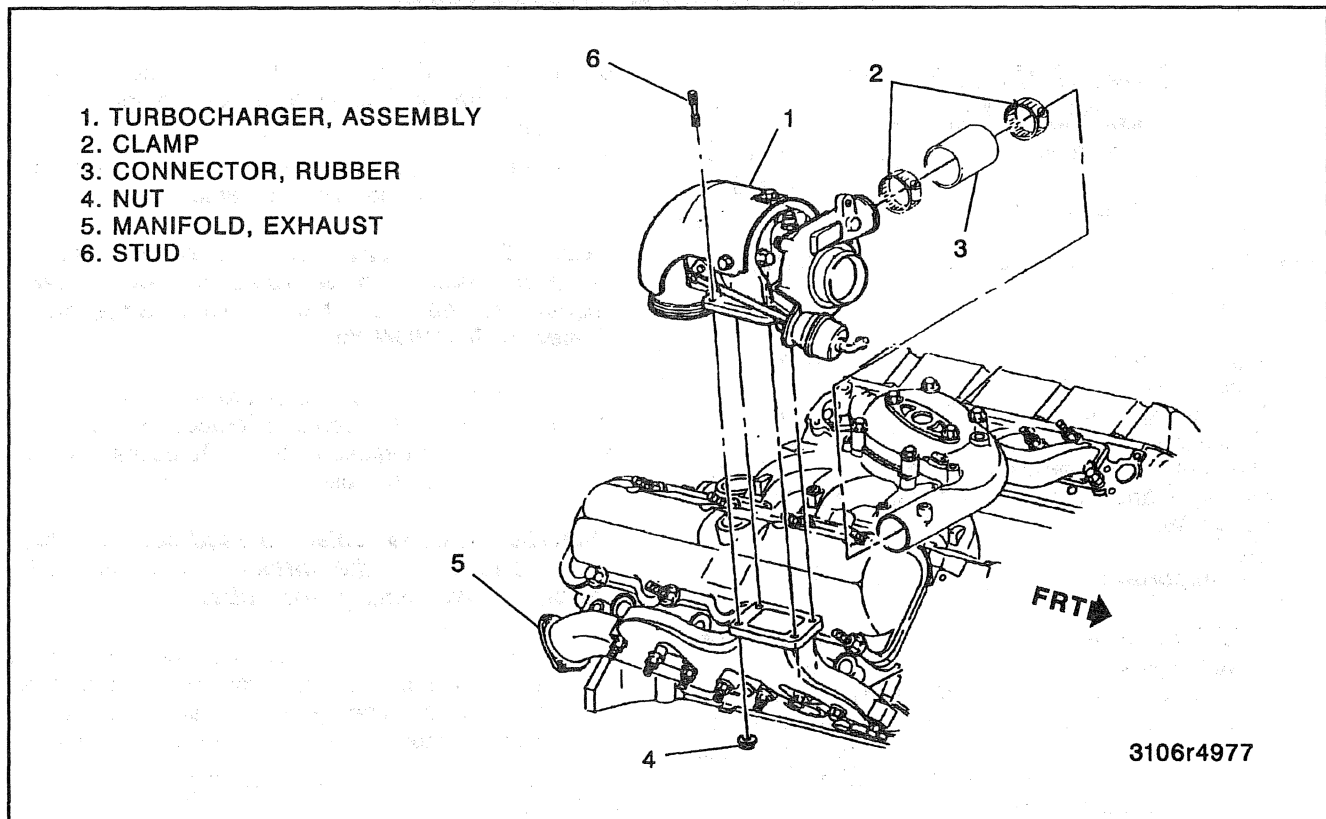

Figure 10—Turbocharger Mounting
13. Turbocharger flange nuts (figure 10).
1. Turbocharger assembly to the exhaust manifold (figure 10).